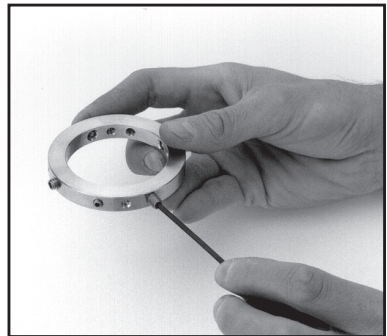

Figure 10
4.3.1 **Install new set screws** into the collar. Be careful to locate the cup point and half dog point set screws in the proper holes. See Figure 10.